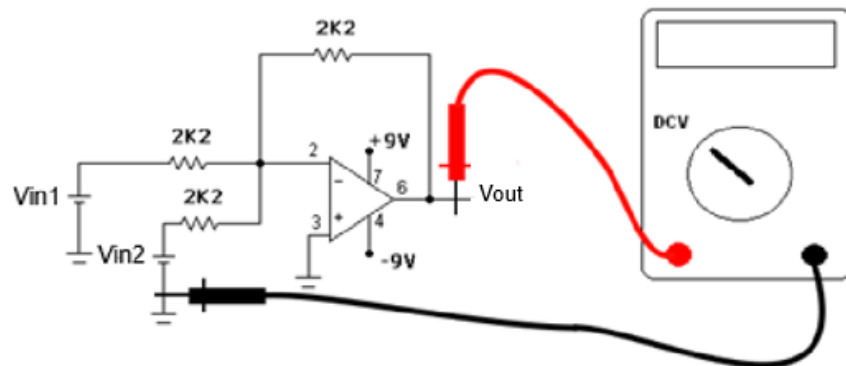
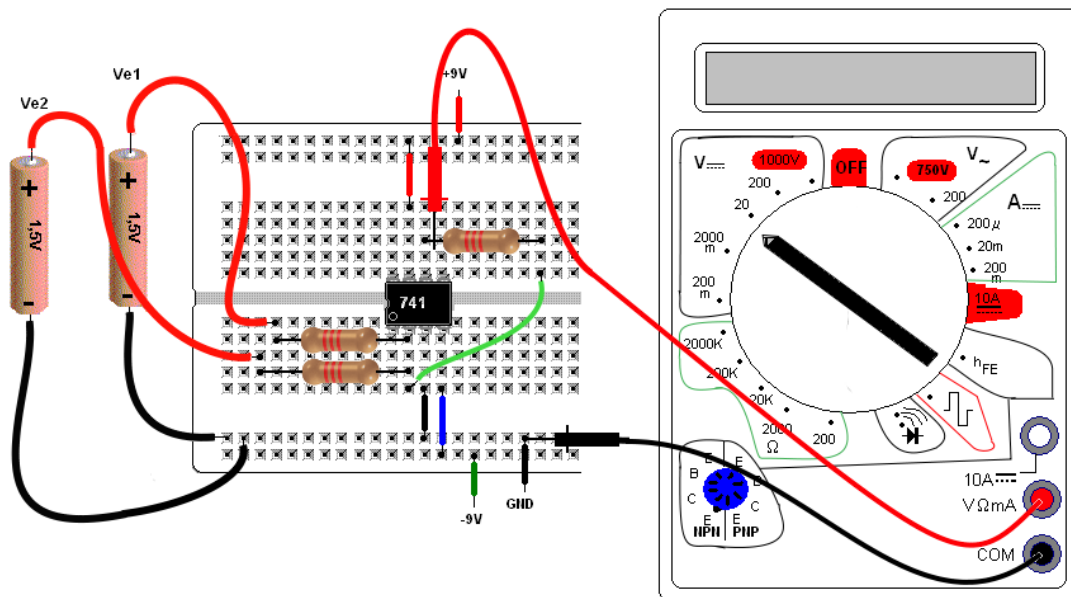

Figure 3 – Inverter adder circuit
Figure 4 – Inverting summing amplifier - suggested layout on the breadboard
- 1) For the circuit in Figure 3, calculate the output voltage (V_{out}) for each of the combinations of input voltages (V_{in1} , V_{in2}) in Table 1.
- 2) Assemble the circuit in Figure 3 in the breadboard according to the layout suggestion in Figure 4. Measure the voltage at the output, V_{out} , for each of the combinations of inputs (V_{in1} , V_{in2}) in Table 2.